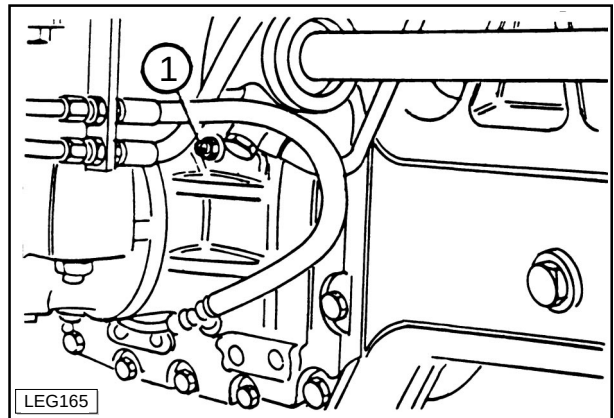

Fig.5-27
- 2 - Depress both pedals at the same time and slacken off the two bleed screws (1 - Fig. 5-27) at the rear of the central part of the front axle. Repeat this operation until bubble-free oil flows out.